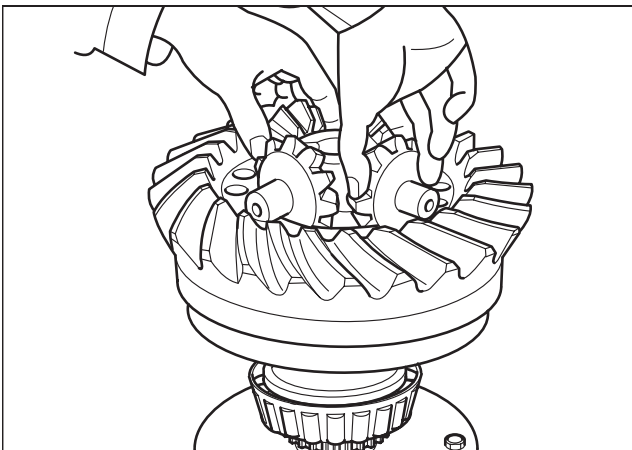

Fig. 2.34
5. Lift off the cross-axle differential nest (spider and pinion assembly). (Fig.2.34)